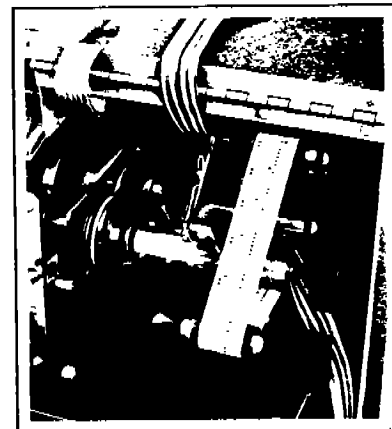

Figure 3
- Slip tape over Vertical Forms Positioning Knob and into slot in read head, with tape encircling both roller on Tensioning Arm, and Sprocket Drum (figure 3). Be sure that sprocket pins engage holes in tape.